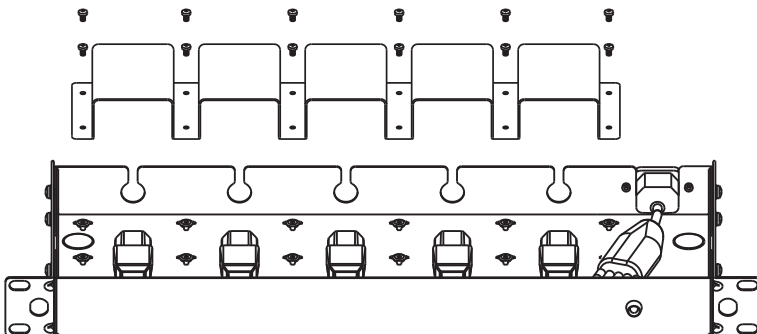

Fig. 2
1. Unscrew the screws from the fixed cover ❹ , as shown in Fig. 2.